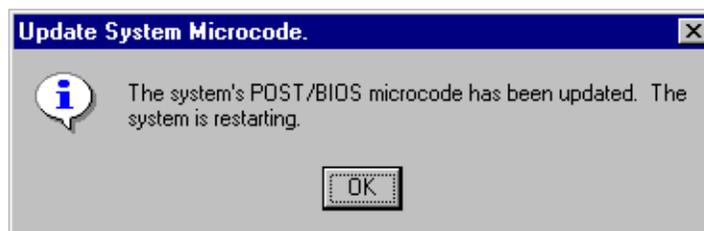

Figure 202. BIOS Update Complete
7. Once the process is complete, you will get the message shown in Figure 202.